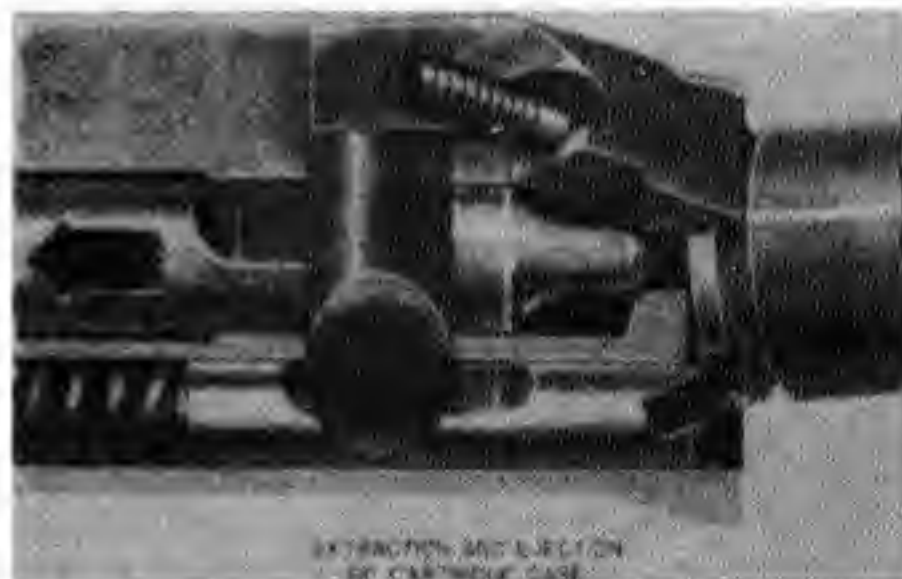

Figure 41. Extraction and ejection.
e. Extraction. Extraction occurs next (Fig. 41). Remember that the extractor has been gripping the rim of the cartridge case all the time that the cartridge has been in the chamber. Initially the cartridge is loosened in the chamber as the bolt unlocks, due to a very slight rearward movement of the bolt. As the bolt continues to the rear it pulls the empty case from the chamber.
f. Ejection. When the front of the empty cartridge case clears the rear of the chamber, the ejector (which has been continually pushing against the base of the case) ejects the empty case from the receiver by the action of the expanding ejector spring (Fig. 41).